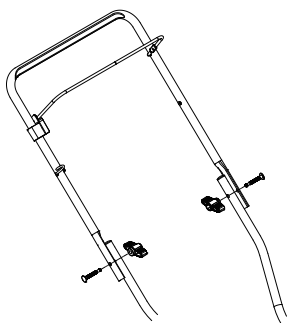

Fig. 3
2. Connect the upper handle to the lower handle by bolts and knobs (Figure 3).